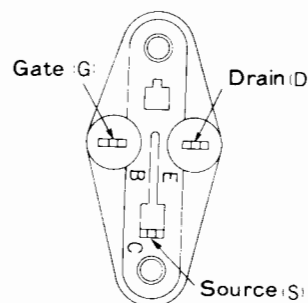

Fig. 7
- (1) When the stabilized power circuit and the peripheral parts of Q701 and Q702 (D701, R703, R709 and their peripheral parts) are replaced, the adjustment of the input/output DC may drift, so be sure to check the input/output DC voltage.
- (2) The output stage of this unit is a parallel push-pull amplifier. The power MOS FETs (FET 751L,R – 754L,R) are Ⓒ or Ⓓ grade service parts. Be sure to match the upper (FET 751L, R, 752L, R) or lower (FET 753L, R, 754L, R) FETs to the same grade for each channel, when replacing the power MOS FETs.
- (3) Since the socket for transistor use is used for the socket of the POWER MOS FET, polarity is indicated as B, C, E. Match it to the indications shown in Fig. 7 when replacing the POWER MOS FET and when checking.